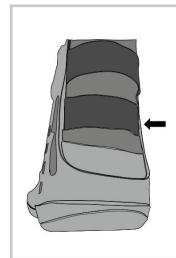

Figure 5
5. The Achilles (Heel strap) should be snug but not too tight. It may also be removed (Figure 5).